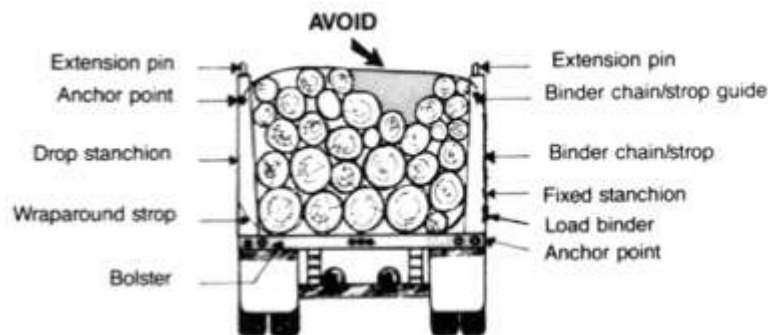

Figure 1. Components of a log truck, including securing devices.
8. Where stanchions are used on logging trucks and/or trailer(s) the top of the load shall be rounded so that the binder chains/strops will contact as many logs as possible. Refer Figure 1.